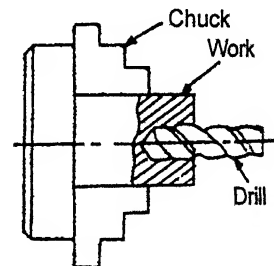

Fig. 10.19. Drilling.
**6. Drilling. Refer to Fig. 10.19.**